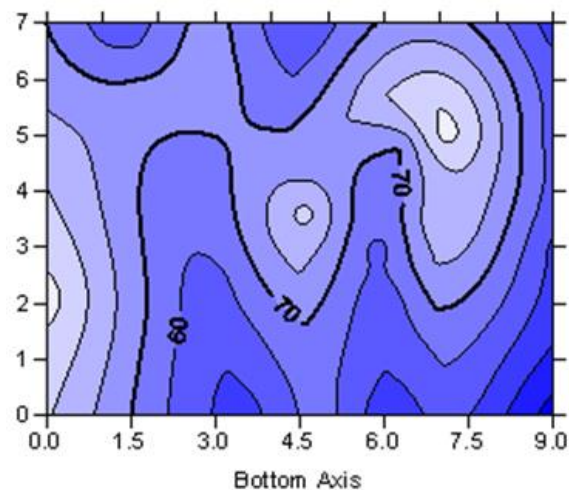

Figure 1.137 – You can use axis properties dialog to change the tick mark and axis title properties
9. Click **OK** in the axis properties dialog and the map is redrawn. The axis tick spacing and labels are changed, and the axis title is placed below the map, fig. 1.137.